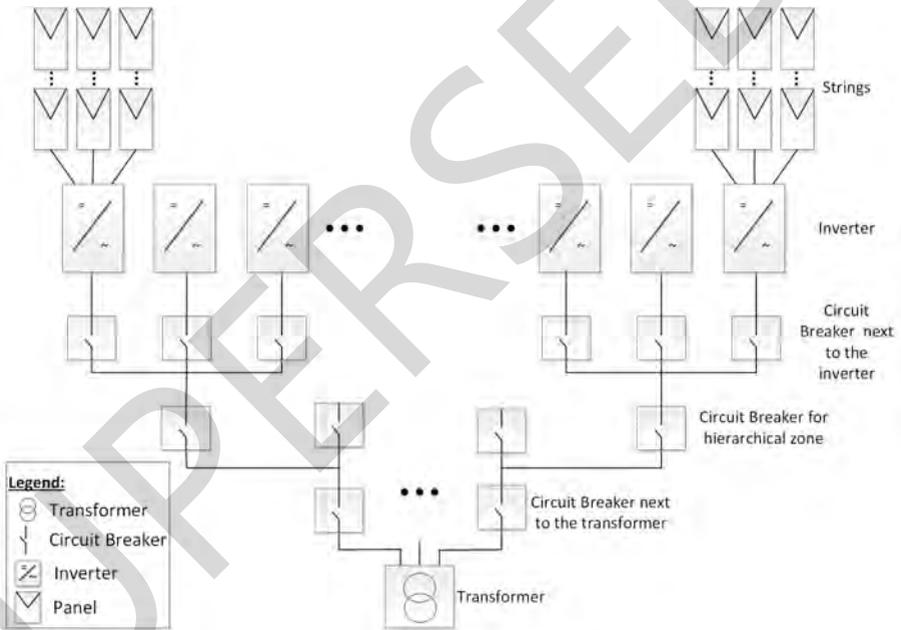

Figure 48: Typical transformer and commercial three phase inverter installation topology
- The current limiting devices should protect the electrical circuits and the inverters from the excess current created by an overload, or a short circuit. If a short circuit or other overcurrent occurs, the current limiting devices should block the current flow to the circuit, thus preventing damage to the electrical circuits and the inverters. The circuit breakers and the fuses should comply with the transformer manufacturer recommendations and with the relevant sections in standards such as IEC 60909, IEC 60364, UL 508A and NEC 2017. Some manufacturers provide detailed information about the transformer short circuit calculation procedure, and its effect on the selection of circuit breakers and fuses at the different hierarchical levels of the installation topology (see *Figure 48*). For an example of a calculation, refer to:
This section explains how to determine the rate of a circuit breaker next to an inverter. For an example of an inverter with a circuit breaker next to it see *Figure 48*.